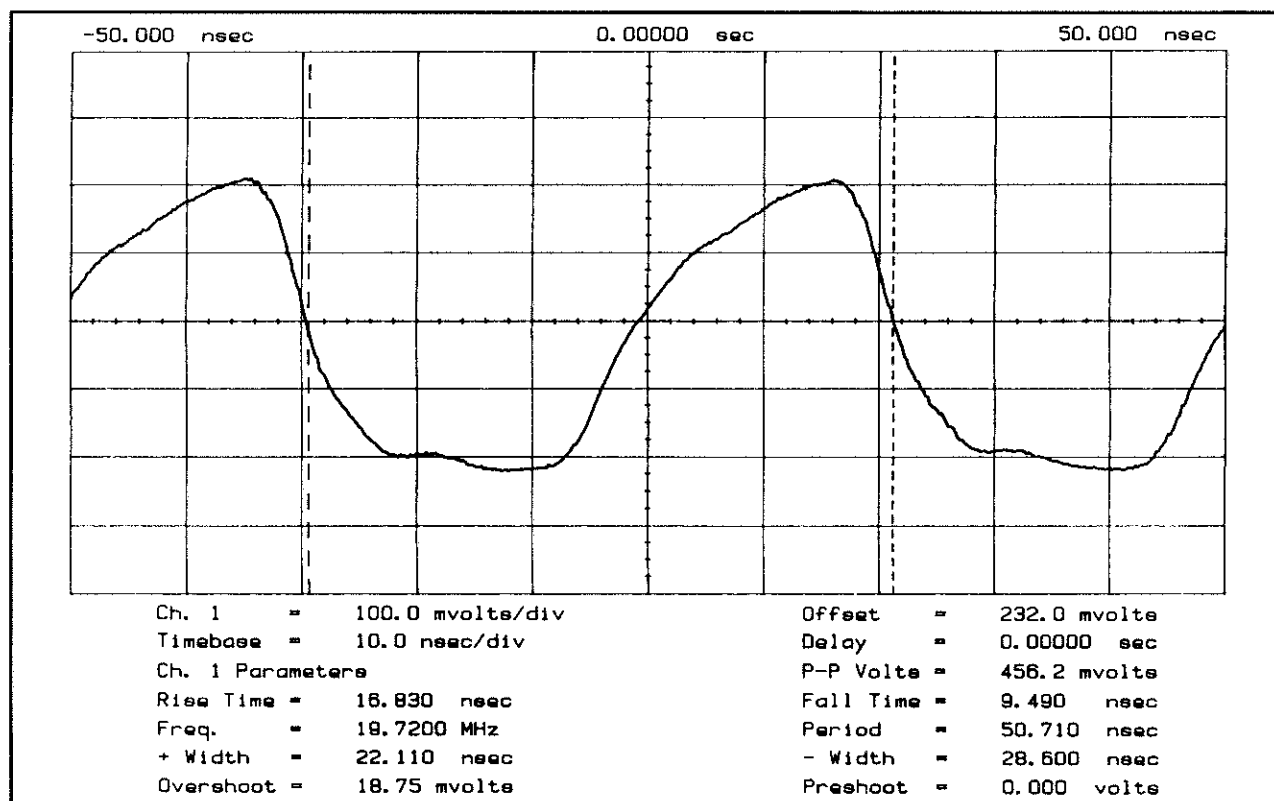

Figure 7G-2. Clock Signal at A7U7(3)
- A. Measure the clock signal at A7U7(3) for a 50 ns period (approximate sine wave). See *Figure 7G-2*.